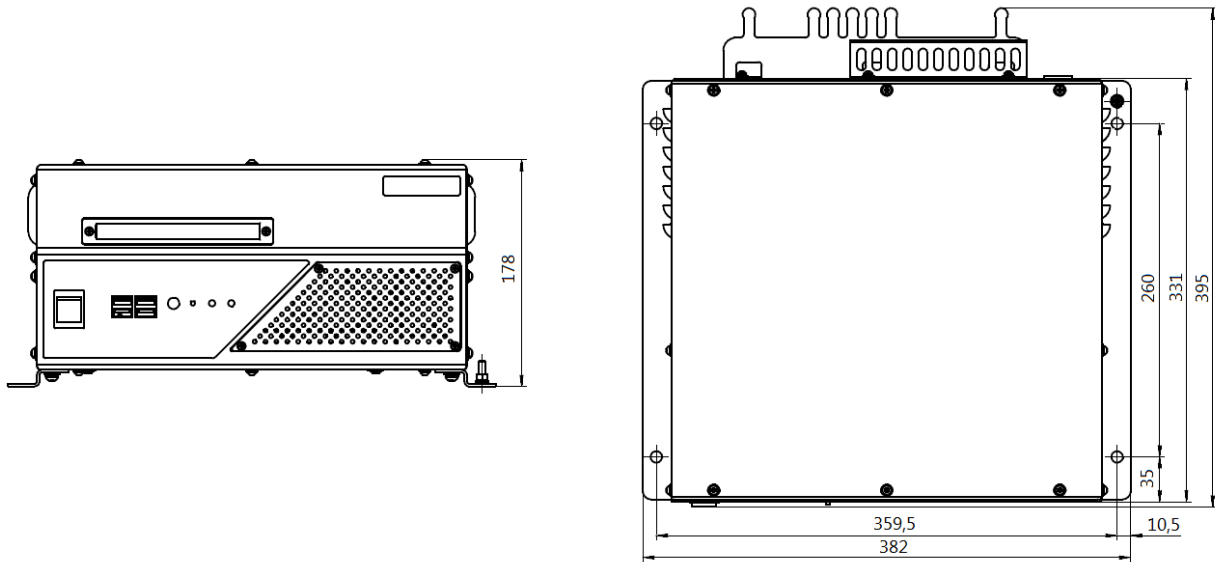

Figure 1 – Overall dimensions of the Product MPC-127
1.2.3 Products' overall dimensions depending on the diagonal are represented in Figures 1 и 2.
Note – Overall dimensions in Figures 1 and 2 are informative and may differ from particular Product design depending on the order. Inquire the manufacturer for overall dimensions of particular Product design